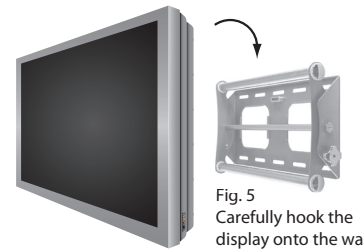

Fig. 5
1. With the help of another person, carefully lift your display and place it on the wall plate (Fig. 5). Do not release the display until the mounting arms have securely hooked onto the crossbars!